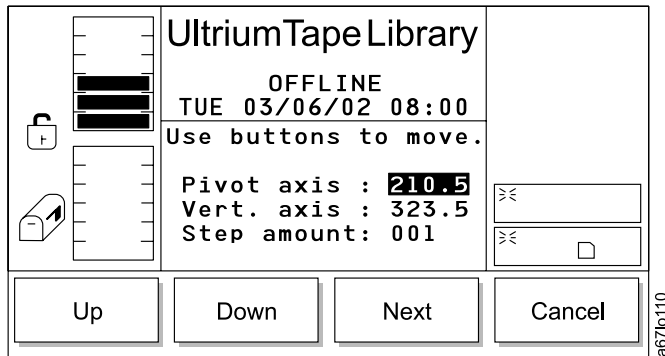

Figure 178. Axes Dialog
- If **OK** is selected, the Axes Dialog displays (see Figure 178).